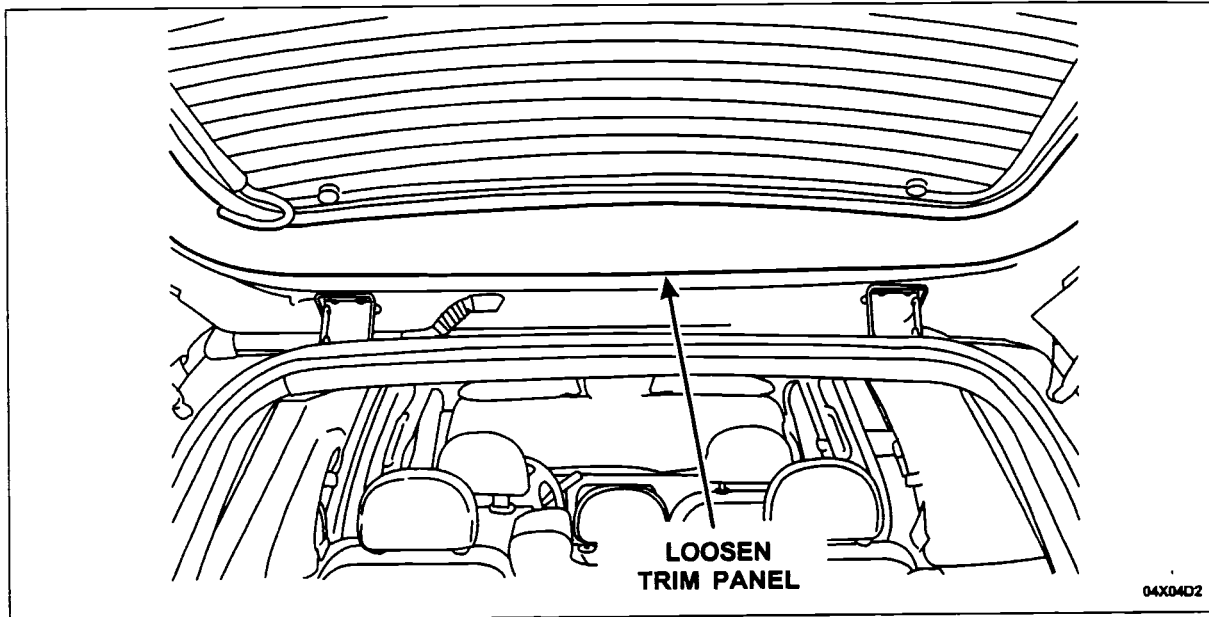

FIGURE 4
6. Position the upper part of the liftgate trim panel away from the liftgate to gain access to the hinge fasteners. See Figure 4.